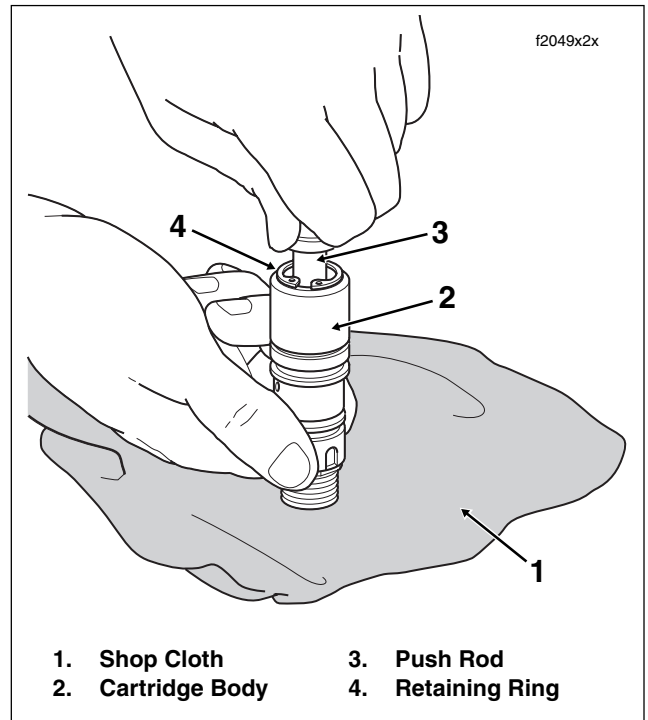

Figure 2-53. Compress Spring and Install Retaining Ring
- Stand cartridge body upright on banjo sealing surface. Lay down a clean shop cloth to protect the sealing surface from damage. See Figure 2-53.